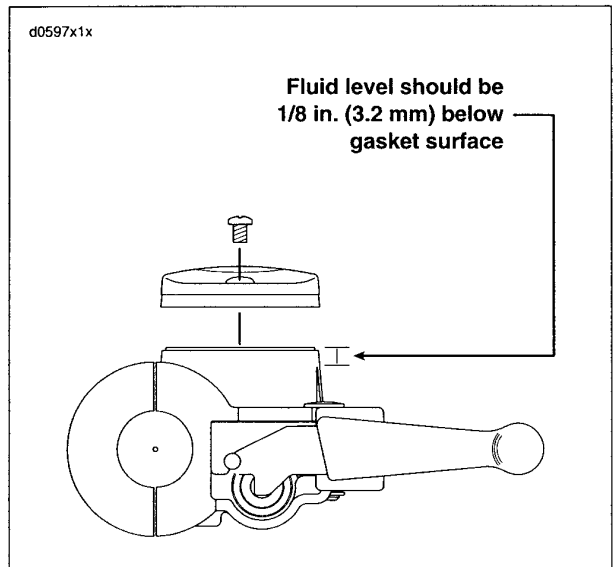

Figure 1-11. Front Brake Master Cylinder Reservoir
2. See Figure 1-11. Check level in front brake master cylinder reservoir. Level should be 1/8 in. (3.2 mm) below the gasket surface.